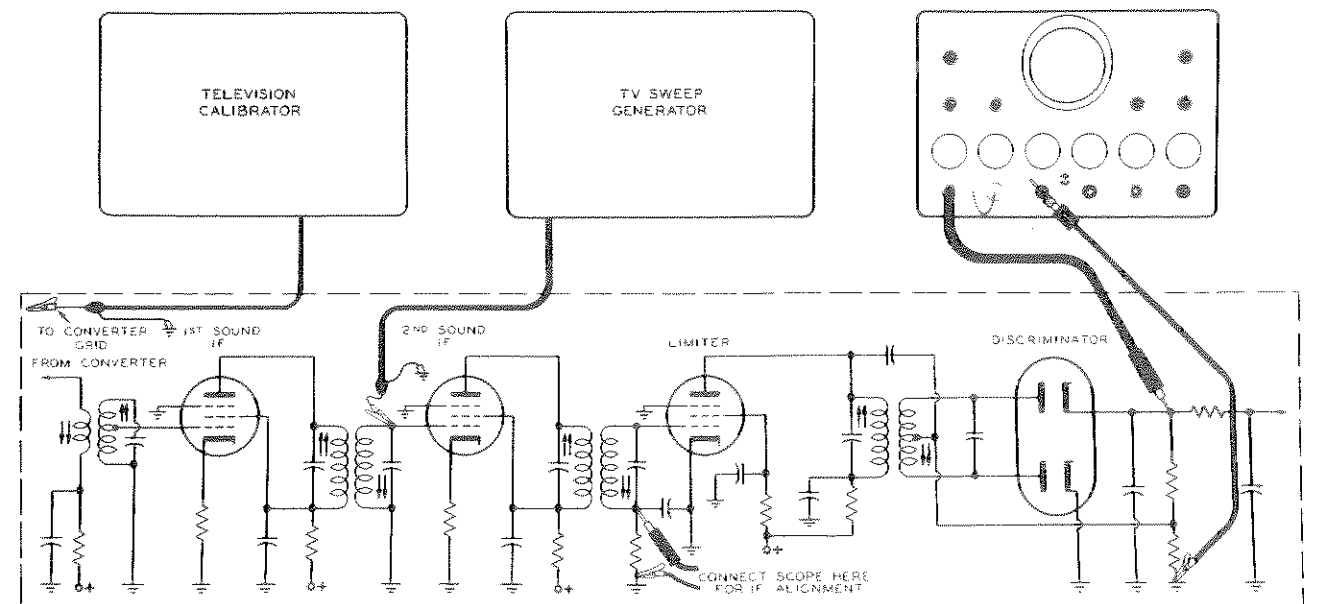

Figure 7. Setup for Alignment of Sound-IF Amplifier
A suggested alignment procedure is outlined below. The setup for this procedure is illustrated in Figure 7.
2. Connect the Direct Probe and Cable across the limiter grid resistor and to the oscilloscope, as indicated in Figure 7. If the sweep generator uses a sinusoidal sweep of line frequency, set the SYNC/H SEL on "LINE", and adjust the PHASE ADJ/SWEEP
Connect the output cable of the sweep generator to the if-amplifier input, and the Direct Probe and Cable and the Ground Cable of the WO-57A across the discriminator output. (See Figure 7.)